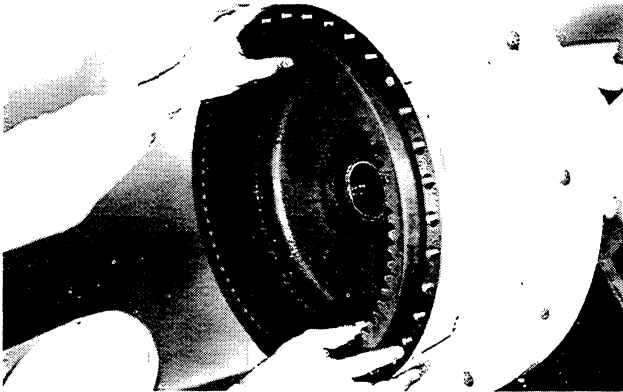

Figure 8:
10. While supporting the hub with a hoist, slide the internal gear and hub assembly from the spindle (Fig. 8).